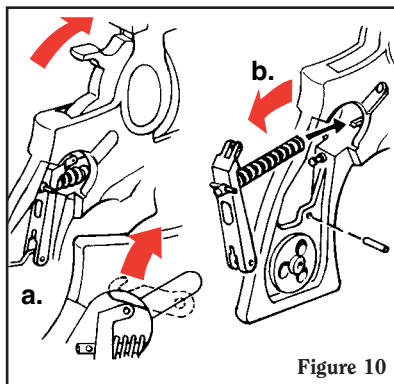
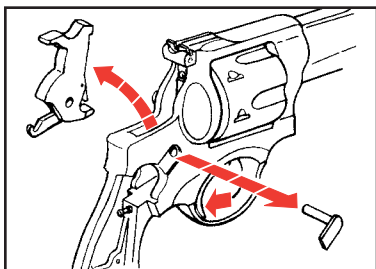

Figure 10
Figure 11
4. With thumb on hammer spur, squeeze trigger allowing hammer to go fully forward. Remove the hammer pivot assembly. With the gun muzzle pointing down, slowly lift the hammer upward and out of the frame (See Figure 11, p. 22). It may be necessary to move the mainspring lever forward in order to cause the hammer link hook to detach from the mainspring lever (See Figure 10 a.). If careful manipulation of the hammer and trigger does not disengage the hook, disengage it with the tip of a jeweler's screwdriver or similar device when the hook is in a near-off position.
5. Push the lever pivot pin out with a small punch or nail and remove the mainspring lever from the frame with mainspring and strut intact. Removal can best be accomplished by twisting the lever slightly as the assembly is drawn from the frame toward the rear (See Figure 10 b.). **CAUTION:** Do not remove disassembly pin at this point! Doing so will permit the mainspring to fly off its strut with great force and may cause injury. The pin is to be removed only after the assembly is correctly installed in the revolver during reassembly.
The information below applies only to those revolvers in which the Hammer Link (KH06900) is assembled to the hammer with the link hook pointing downward, as illustrated in Figure 10 below.